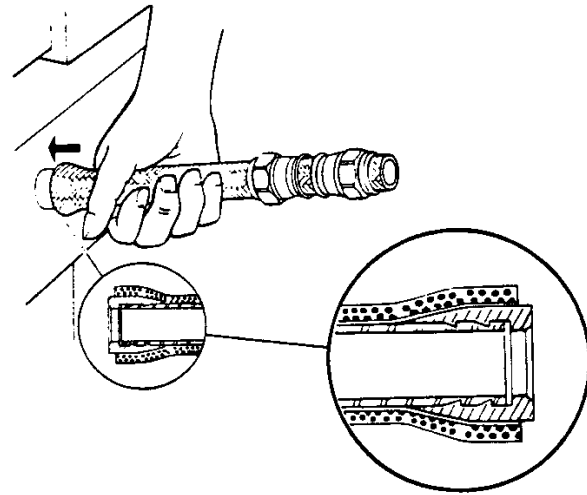

Figure 15: Installation of sleeve
Step 4. Install sleeve. Carefully insert sleeve between braid and tube O.D. insuring that no wires are trapped between the sleeve and tube O.D. If the sleeve cannot be inserted over the tube, insert a neck down tool (see chart) over the end of the tube and push firmly. This will resize the tubing O.D. to accept the sleeve. Complete positioning by pushing end of sleeve against flat surface until tube bottoms against shoulder in sleeve I.D. (see **Figure 15.**) However, neck down tool may not be required for all sizes. Visually inspect to see that tube end is bottomed against sleeve shoulder and that no wires are trapped under sleeve.